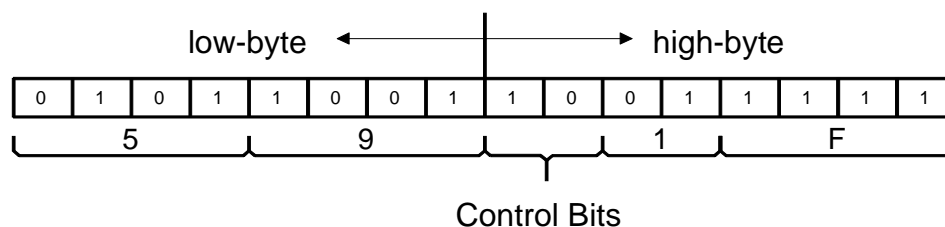

Figure 4-7. Terminating the DMA mode with the MSB Control bit set to “1”
- ON or 1 will set the 396 in DMA state. After this, the instrument cannot accept normal commands but only binary bytes. Normal command mode is resumed when the DMA state is terminated. The DMA state is terminated automatically to DMA OFF when the most significant bit of the high byte is set to "1". Therefore, your last waveform point must contain DMA termination code as shown in figure 4-7.
As an example, Figure 4-7 shows word value of decimal 8025 (0x1F59) in a correct format for terminating the DMA mode.